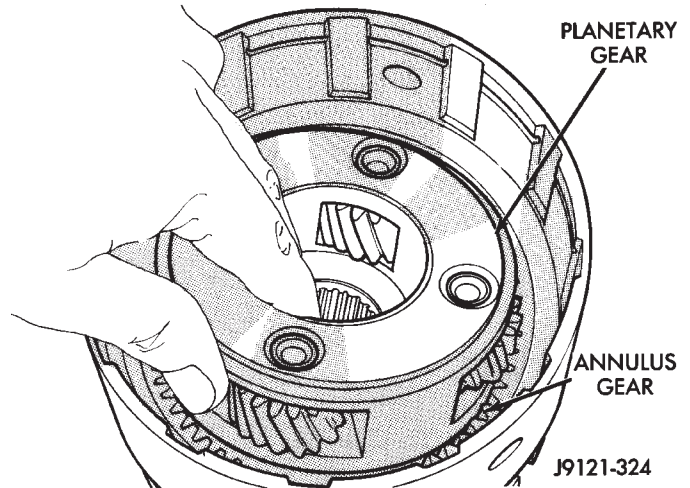

Fig. 333 Planetary Gear Installation
(12) Install planetary gear in annulus gear (Fig. 333). **Be sure planetary pinions are fully seated in annulus gear before proceeding.**